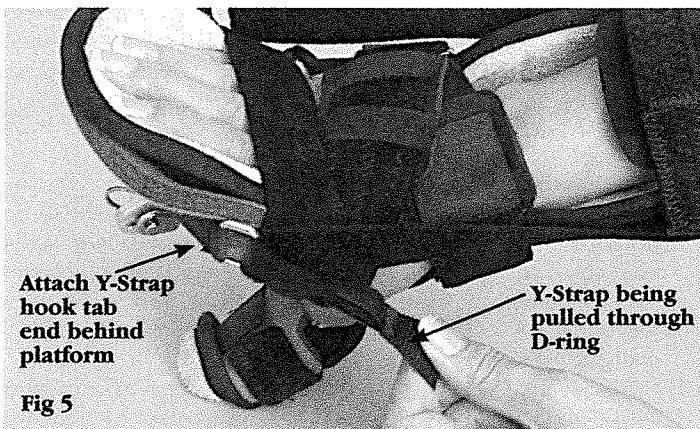

Fig 5
- Bring the sewn “V” area of the “Y” strap around the base edge. Bring each side strap up to the finger platform. Attach the hook tab ends of each strap to the loop piece on the finger platform. (figure 5)
- Have the patient press the finger-end of the orthosis against a wall, table or thigh to help position the wrist snug into the orthosis. Adjust the tension of each side strap through the D-ring setup. The amount of wrist extension and ulnar/radial deviation can be controlled by these straps (figure 5). Reattach the other straps to secure the arm/hand in the orthosis. Stick the hook dots on the orthosis where needed to help keep the straps close to the sides of the splint.